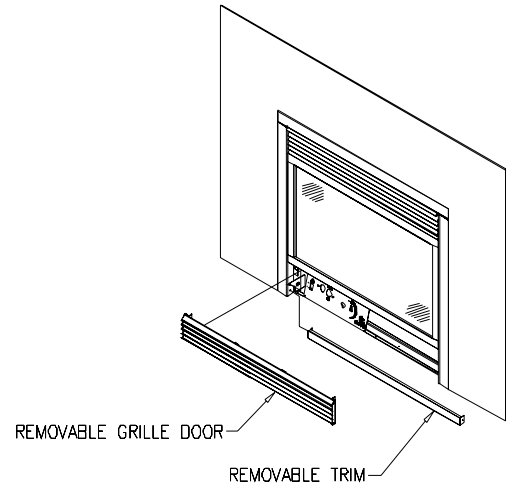

Figure 5.4 - Lower Louvre Removal
1. Remove the lower grille from the front of the unit by unhooking each of the two (2) springs and removing one (1) of either the left or right pivot screws (see Figure 5.4).
2. Remove the bottom fireplace trim by first unscrewing the two (2) 5/16" screws on each side. Push the trim away and towards the back of the unit so as to disengage it from the fastening clips, and then pull the trim out of unit (see Figures 5.4 and 5.5).